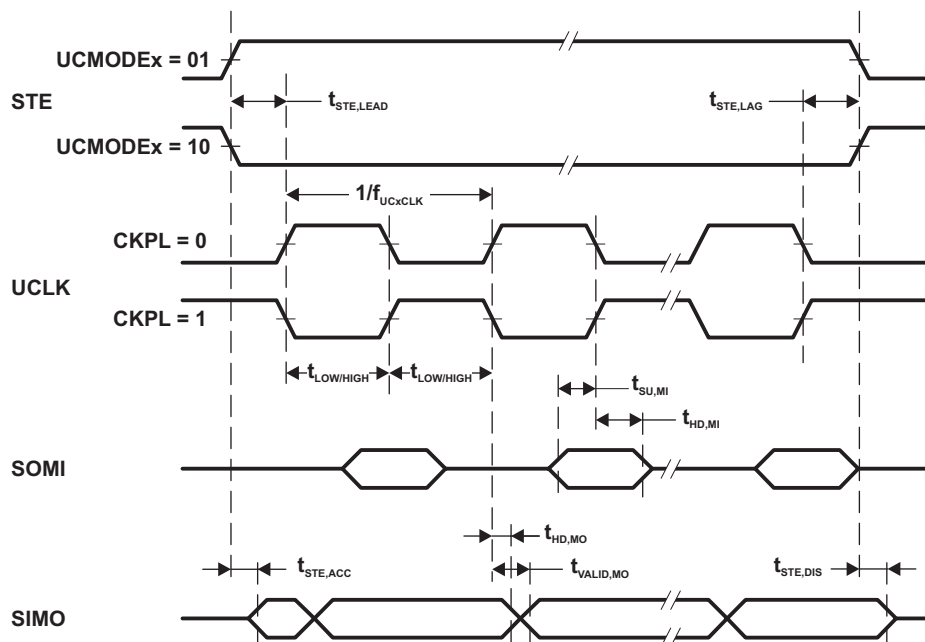
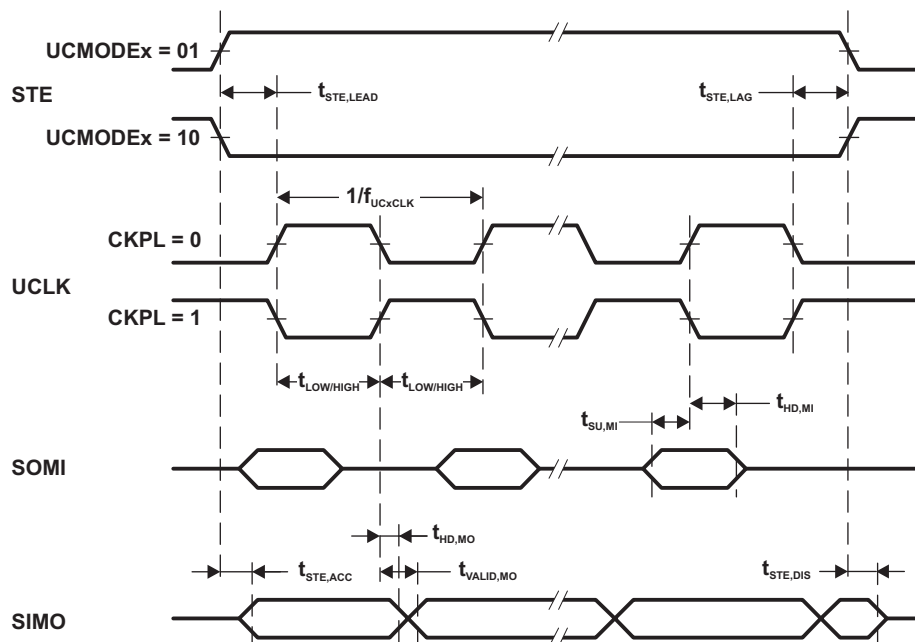

Figure 5-15. SPI Master Mode, CKPH = 0
Figure 5-16. SPI Master Mode, CKPH = 1
- (1) f_{UCxCLK} = 1/2t_{LO/Hi} with t_{LO/Hi} = max(t_{VALID,MO}(eUSCI) + t_{SU,SI}(Slave), t_{SU,MI}(eUSCI) + t_{VALID,SO}(Slave)). For the slave parameters t_{SU,SI}(Slave) and t_{VALID,SO}(Slave), refer to the SPI parameters of the attached slave.
- (2) Specifies the time to drive the next valid data to the SIMO output after the output changing UCLK clock edge. Refer to the timing diagrams in Figure 5-15 and Figure 5-16.
- (3) Specifies how long data on the SIMO output is valid after the output changing UCLK clock edge. Negative values indicate that the data on the SIMO output can become invalid before the output changing clock edge observed on UCLK. Refer to the timing diagrams in Figure 5-15 and Figure 5-16.